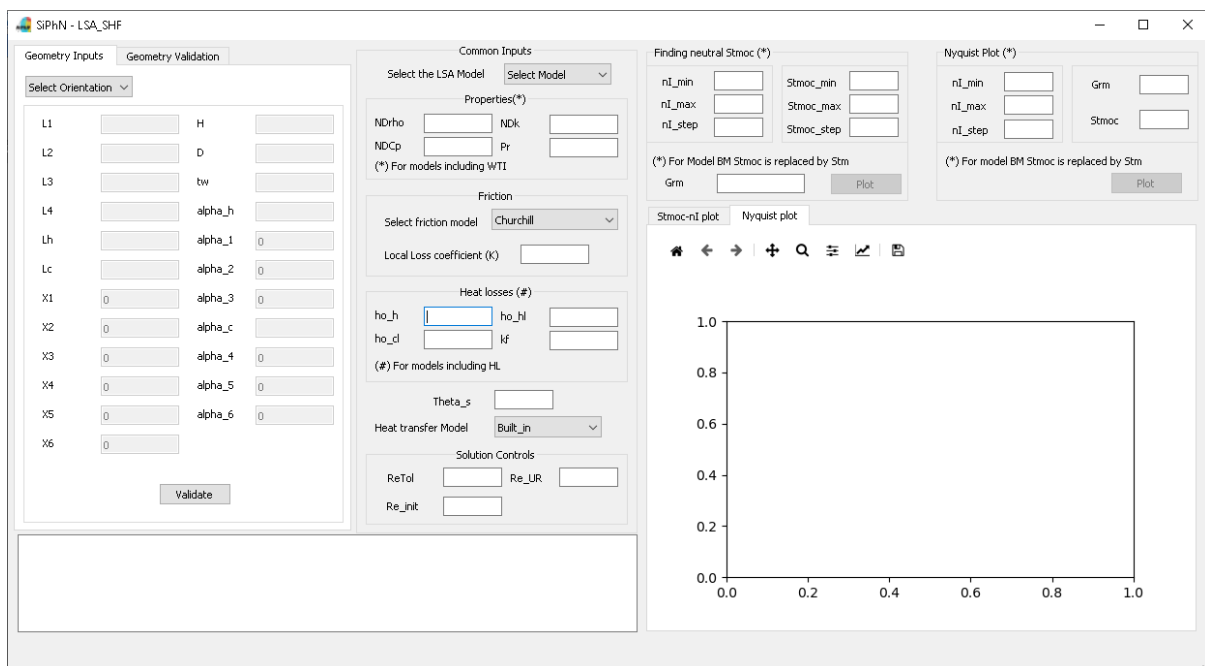

Fig. 3: Window of LSA-SHF module
- ✚ This module has GUI (Fig. 3).